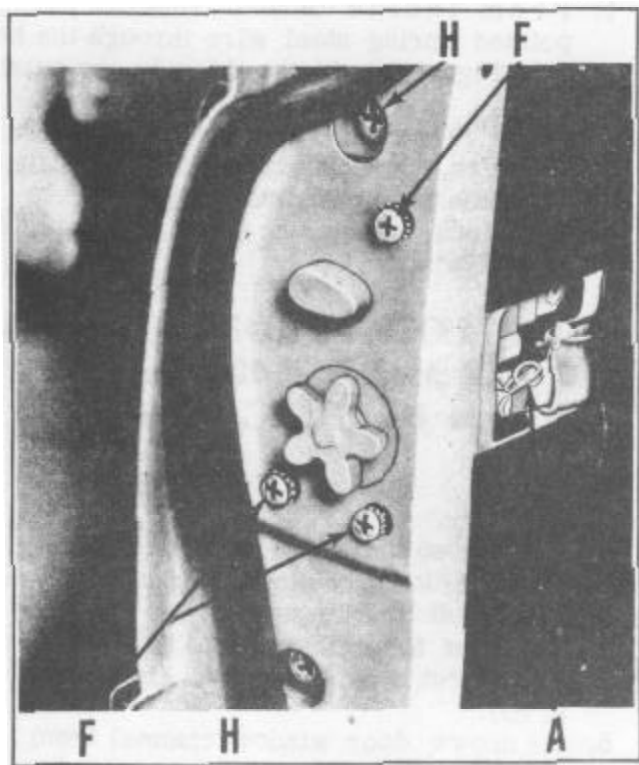

FIGURE 12
5. Remove retainer spring (A), attaching the remote control link to door lock, Figure 12.
6. Remove two screws (H), attaching the upper door frame to door assembly.